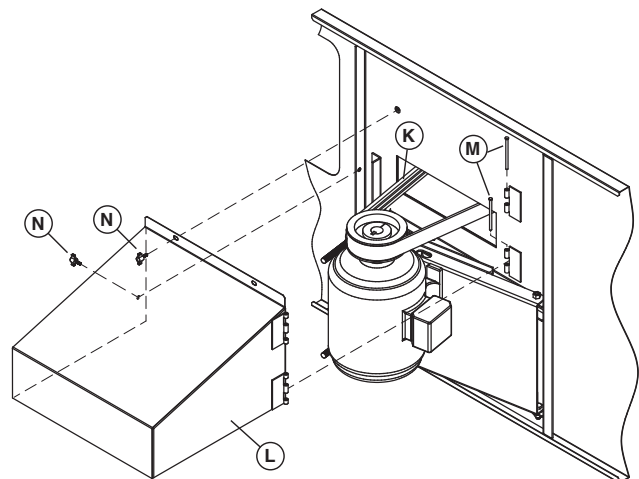

Figure 32 – Motor Guard and Powerband Belt Installation
7. Install Powerband belt **K** (Figure 32) around fan sheave and motor sheave. Tighten belt by adjusting nuts on "J" bolts. Do not over tighten the belts. The center of the belt should deflect approximately 3/4" (19 mm) with moderate hand pressure.
10. To install Motor Guard **L**, match up hinges and install hinge pins **M** (See Figure 32).
11. Close Motor Guard and install two (2) wing bolts **N**.